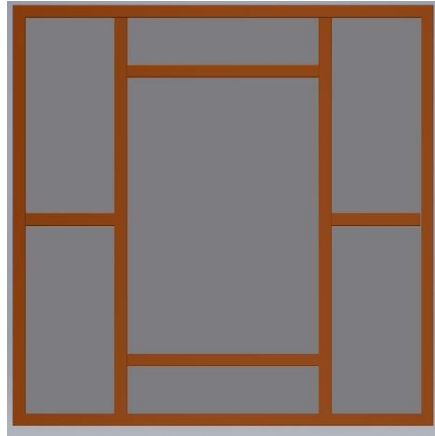

Figure 1
- Structure made with hollow steel frame of 75mm X 25 mm X 2.5 mm as shown in figure 1 (Will 2.5 mm thickness is good for screwing the base plate?)